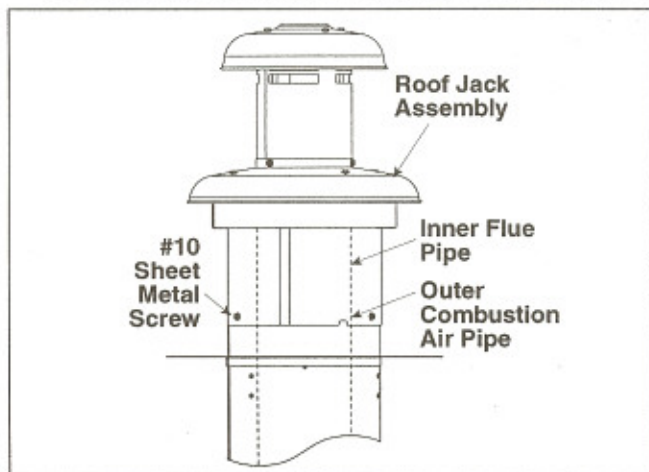

Figure 1.
1. Remove 3 #10 sheet metal screws from base of roof jack assembly and lift assembly off of the pipes. See Figure 1.